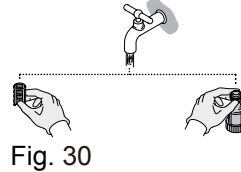

Fig. 30
4. Rinse the parts with clear water (Fig. 30).